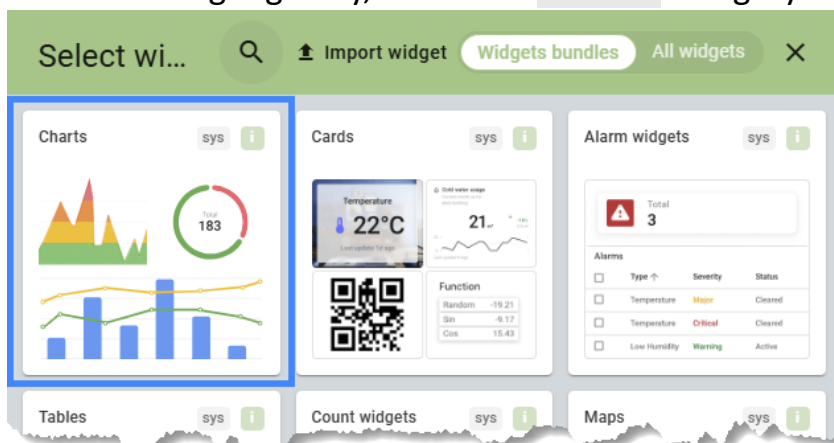

Figure 5: Distinguishing dashboard viewing- and editing mode
4. If you intend to modify your dashboard, make sure the dashboard is in editing. This can be told from the toolbar on top of the dashboard as shown in Figure 5.
5. (optional) If you want to activate the editing mode, simply click the pencil icon (see Figure 5) in the toolbar.